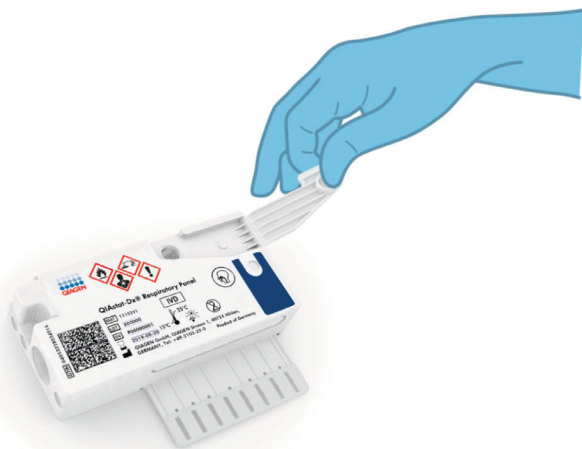

Figure 19. Opening the sample lid of main port.
4. Open the sample lid of the main port on the front of the QIAstat-Dx Respiratory Panel Cartridge (Figure 19).